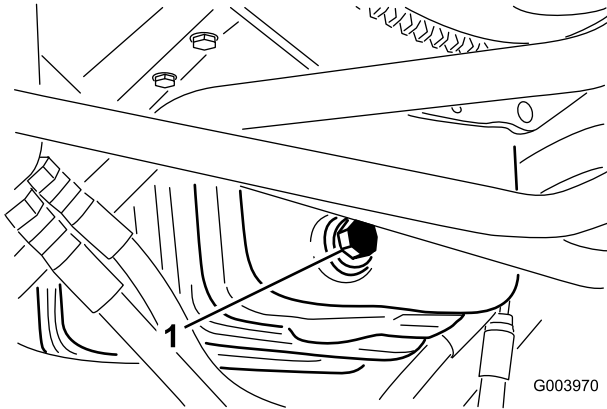

Figure 54
1. Remove the drain plug (Figure 54) and let the oil flow into a drain pan.